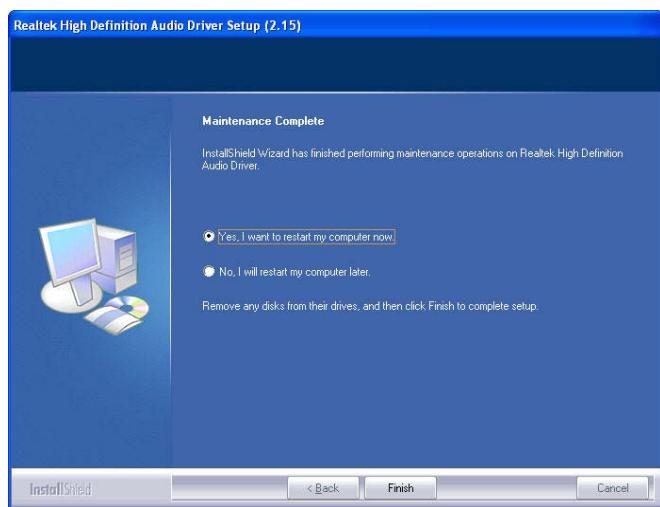

Figure 7-25: HD Audio Driver Installation Complete
Step 7: After the driver installation process is complete, a confirmation screen shown in **Figure 7-25** appears.
Step 8: The confirmation screen shown in **Figure 7-25** allows you to restart the